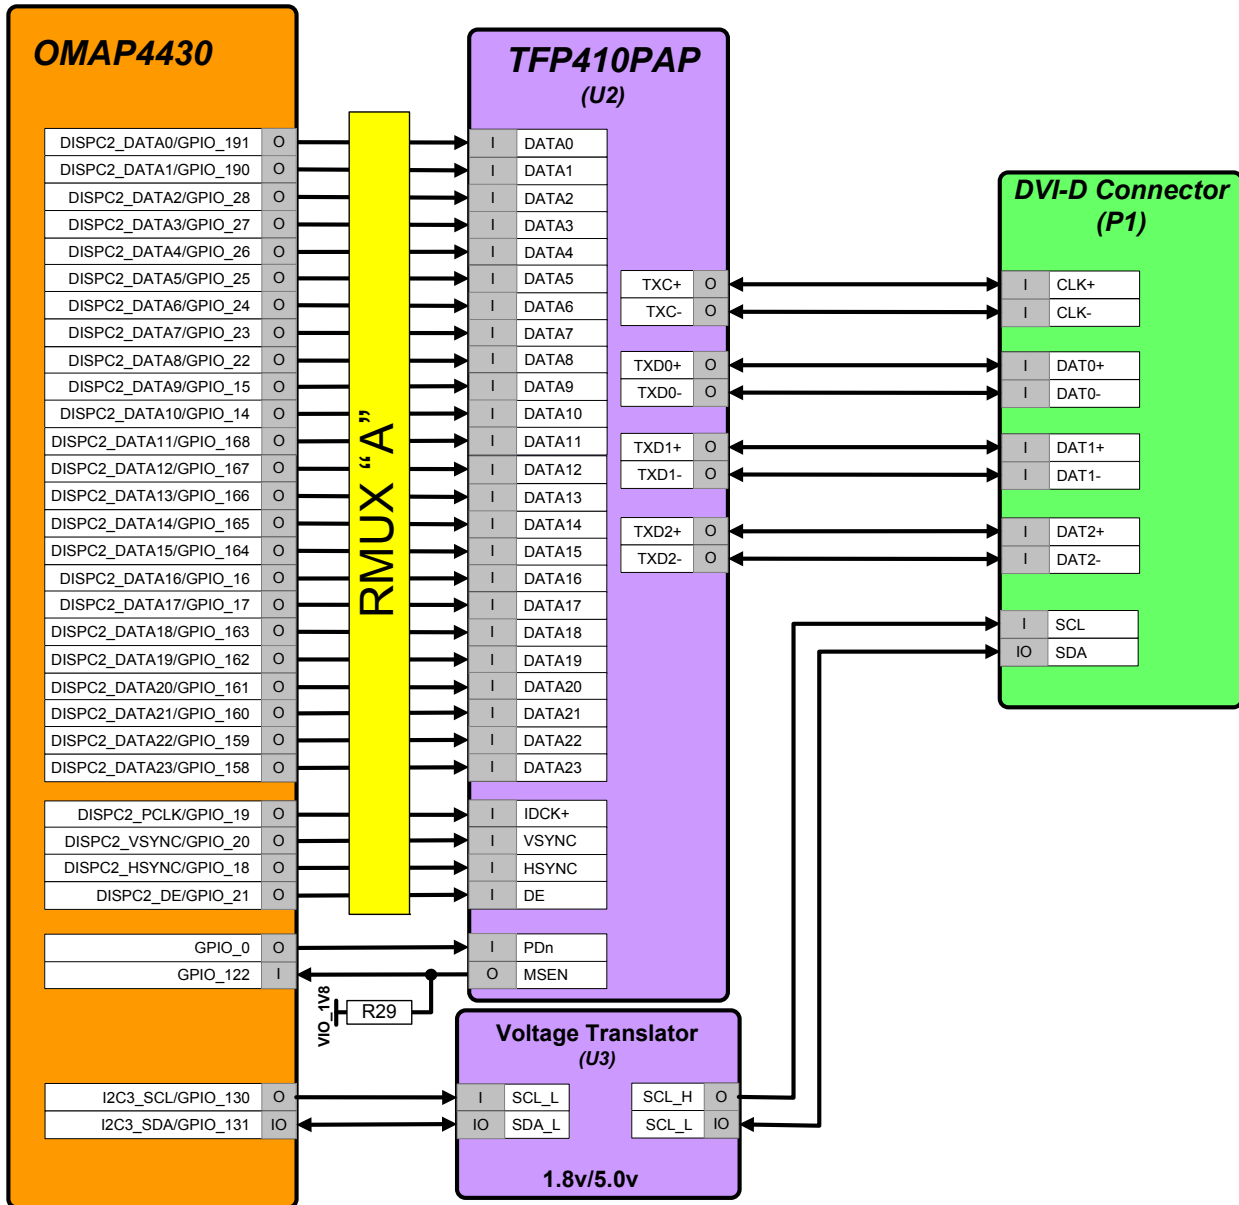
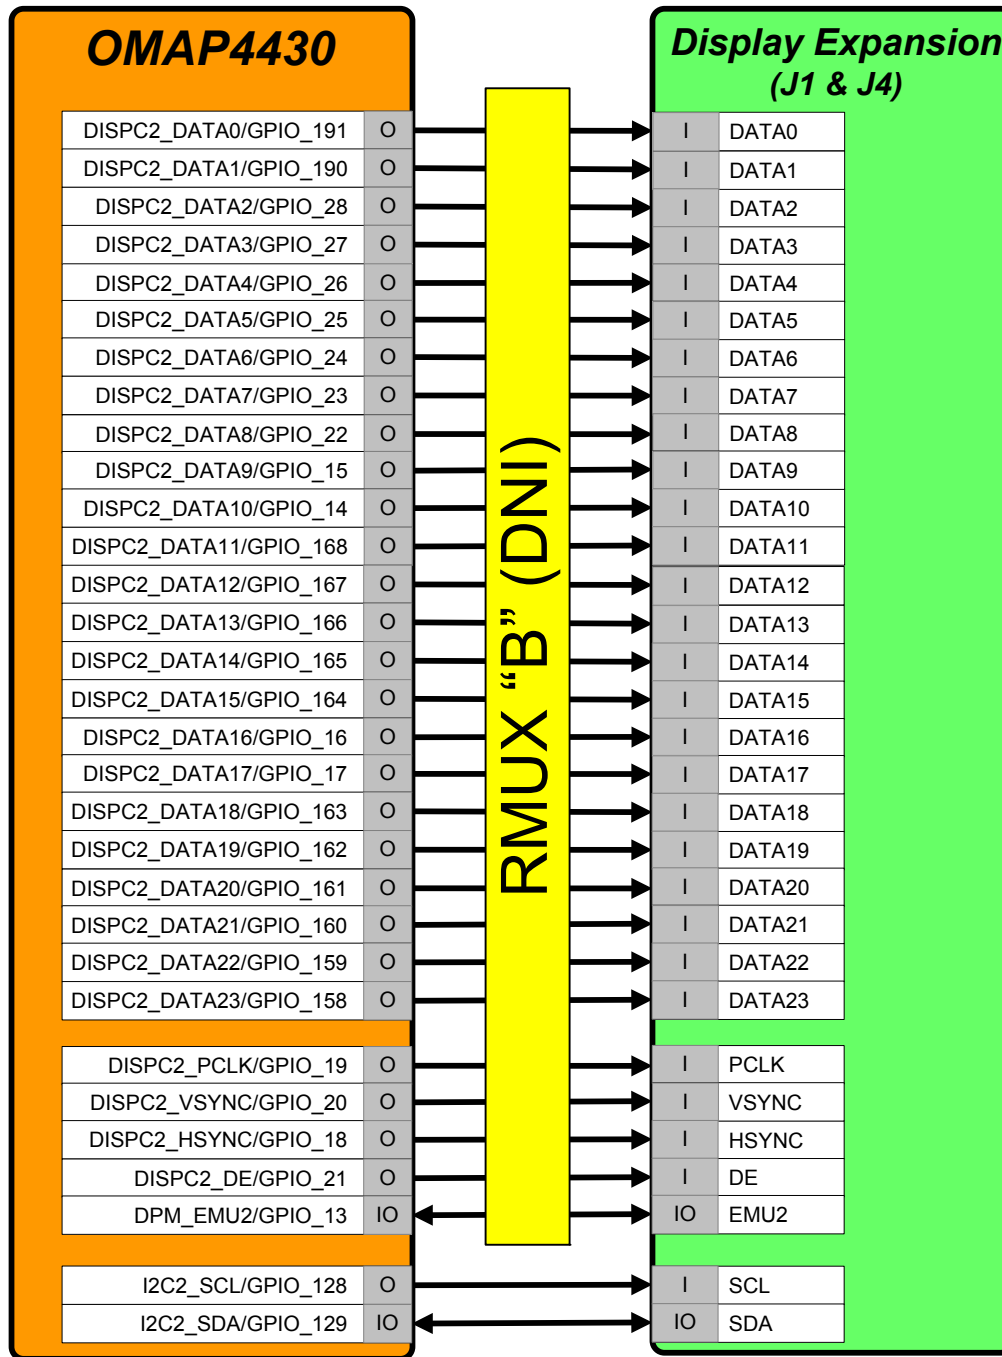
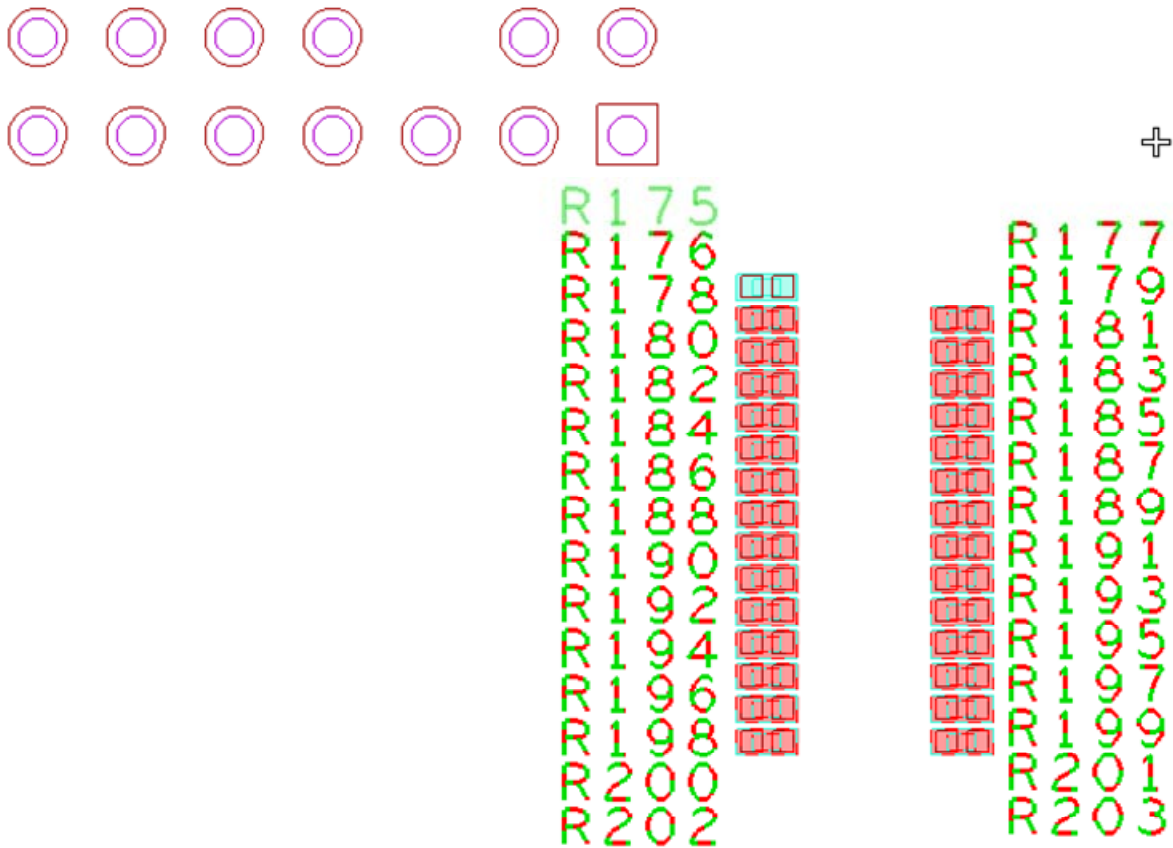

Figure 9 – Panda DVI-D Output Block Diagram
Figure 10 – Panda Display Expansion Block Diagram
Figure 12 – Panda Display RMUX “B” Resistor Locations (Bottom Side of PCB)
As mentioned previously, the as-shipped parallel display interface configuration for the PandaBoard is with the parallel display interface signals from OMAP driven to a TFP410 DVI transmitter, whose output feeds an onboard DVI-D connector. See Figure 9 for a block diagram of this interface.
The second parallel display option for the PandaBoard is to plug an external display module into parallel display expansion connectors J1 and J4. See Figure 10 on page 33 for a diagram of this configuration. To enable this configuration, rework would have to be done to the board. The rework would consist of removing 28 resistors (RMUX “A” shown in Figure 9 on page 31) and adding 28 different resistors (RMUX “B” shown in Figure 10 on page 33). To do this, perform the following two steps:
- 1) Remove the following 28 resistors on the top side of the board as highlighted in red in Figure 11 on page 35 in the following locations: R40-R43, R45, R46, R48-R53, R64-R73, and R80-R85. These 28 resistors comprise the “RMUXA” block shown in Figure 9.
- 2) Add 0201, 33 ohm resistors on the back side of the board as highlighted in red in Figure 12 on page 36 in the following locations: R176-R203. These 28 resistors comprise the “RMUXB” block shown in Figure 10. *Note: if 33 ohm resistors are not available, then zero ohm resistors may be used, or you may simply solder across the individual resistor pads.*